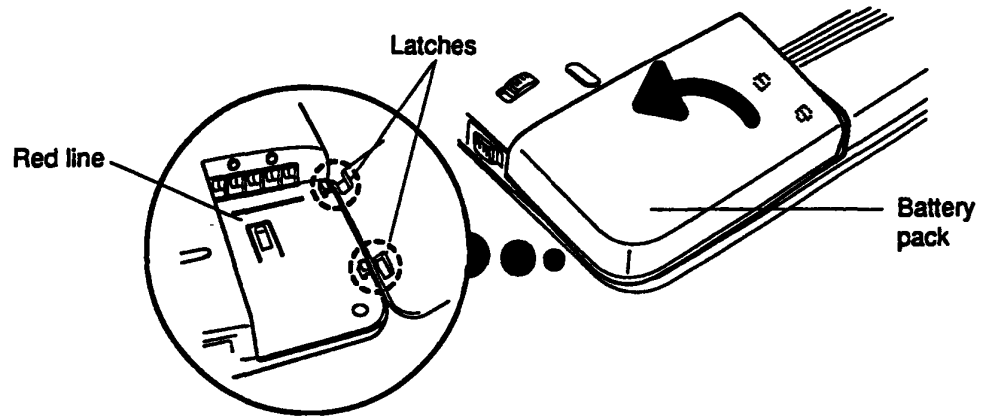

Figure 4-3 Installing the Battery Pack
To install the T100X battery pack, follow the steps below and refer to Figures 4-3 and 4-4.
1. Set the **battery pack** in the T100X so that the front edge is on the **red line** and push the battery pack in until it is fully seated (Figure 4-3).